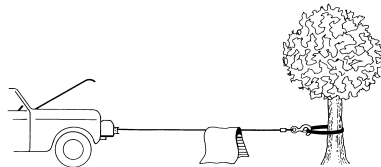

Figure 4
10. Lay a heavy blanket or jacket over the wire rope near the hook end when pulling heavy loads (Figure 4). Should a wire rope failure occur, the cloth will act as a damper and help prevent the rope from whipping. Raise the hood of the vehicle for added protection.